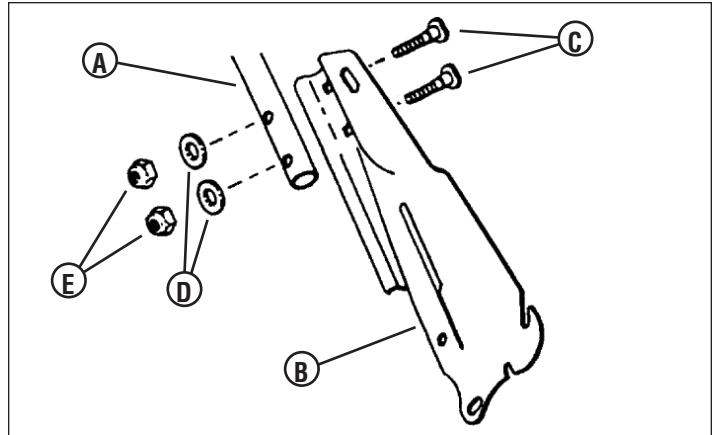

Figure 2
3. Attach the middle handle (A, Figure 2) to the lower handle brackets (B) using four 5/16-18 x 2" curved head bolts (C), installed from the inside of handles as shown, and securing with 5/16 internal tooth lock washers (D) and hex nuts (E). Tighten securely.